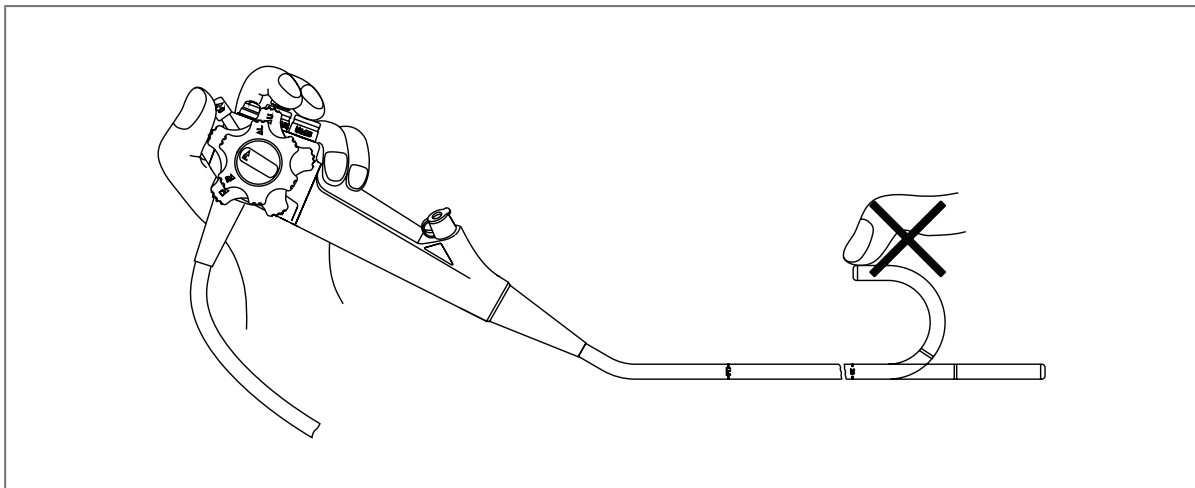

Figure 3.6
4. Slowly operate the angulation control knob to confirm that the bending section, the angulation control knob and the angulation lock are flexible, effective, reliable, and free from any jamming. Make sure that the bending angle meets the use of requirement. (See Figure 3.6)